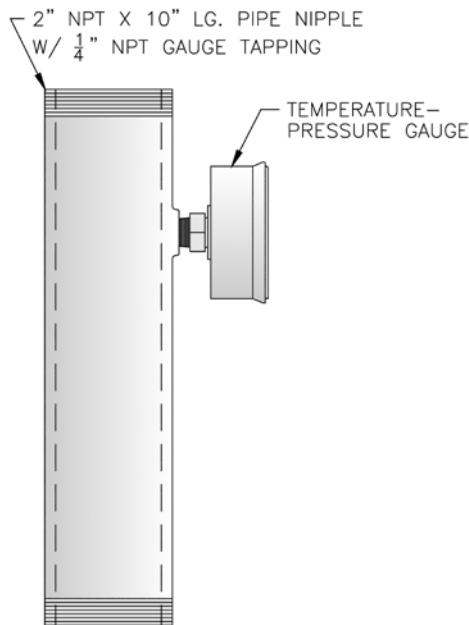

Figure 18: Temperature-Pressure Gauge Installation
1. Standard Temperature - Pressure Gauge Piping. See Figure 18.